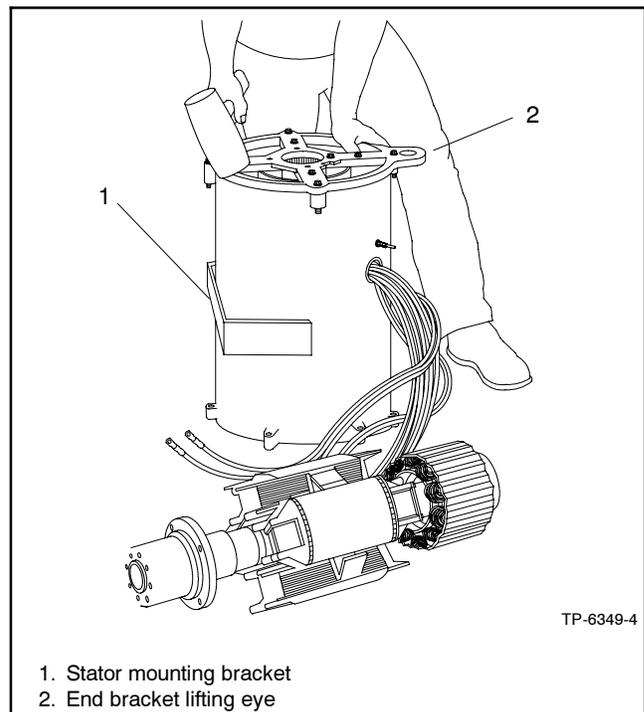

Figure 4-11 Mounting End Bracket on Stator
- Position the end bracket on the stator assembly and use bolts to align the holes. Use a rubber mallet to mount the end bracket flush with the stator assembly. See Figure 4-11.